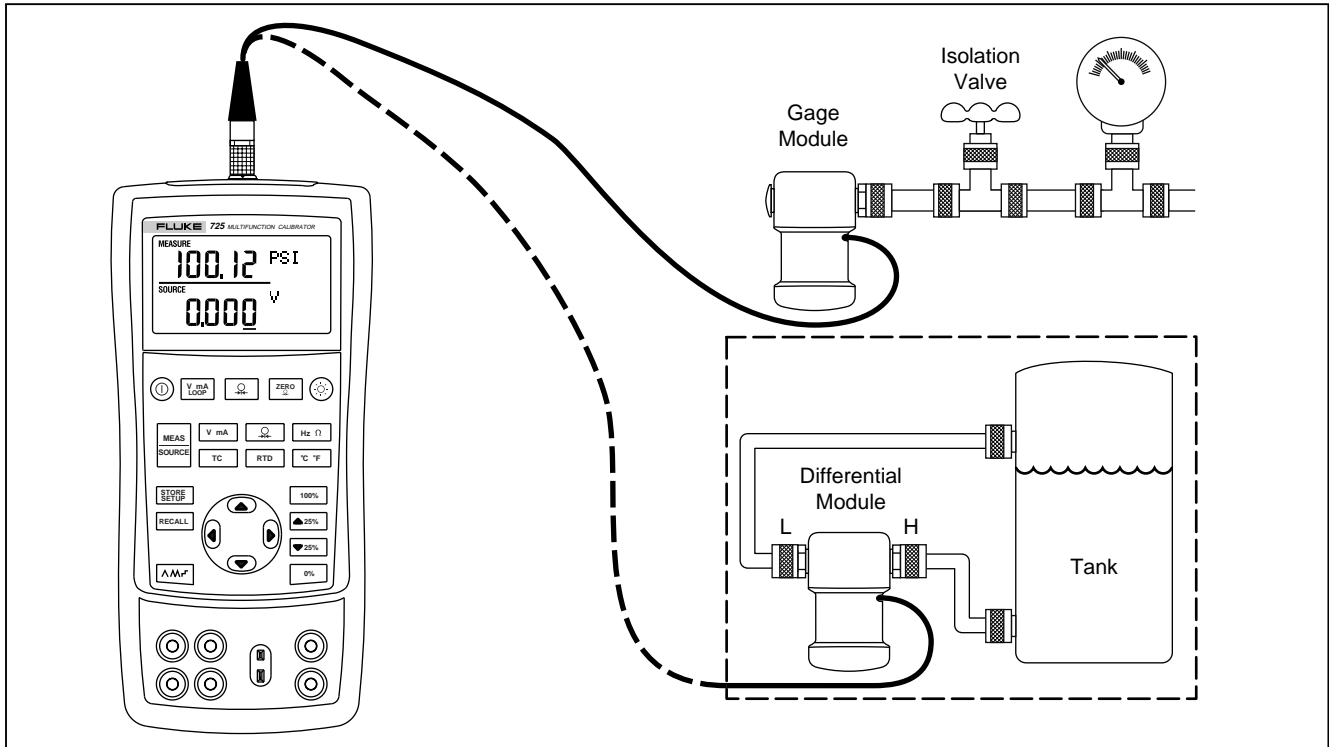

Figure 12. Connections for Measuring Pressure
1. Connect a pressure module to the calibrator as shown in Figure 12. The threads on the pressure modules accept standard ¼ NPT pipe fittings. Use the supplied ¼ NPT to ¼ ISO adapter if necessary.